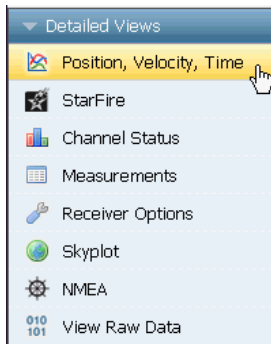
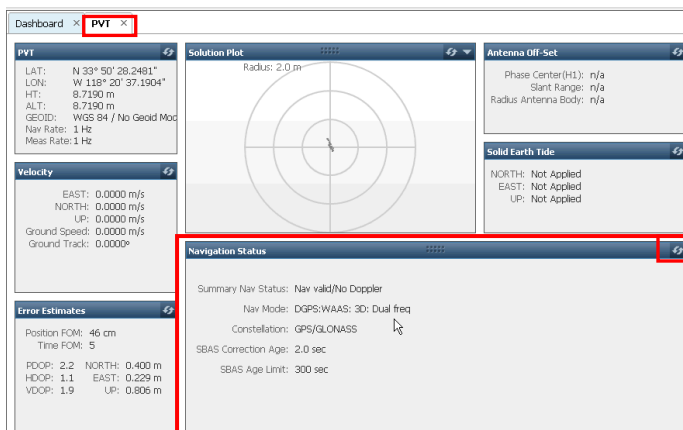
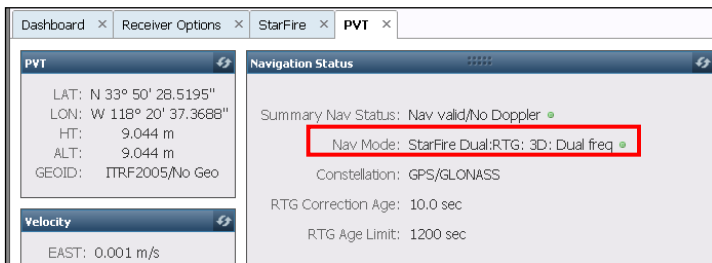

Figure 30: *Position, Velocity, Time* Menu Item
Figure 31: PVT Tab/Navigation Status Window
Figure 37: Nav Mode: StarFire
66. To confirm a valid position solution on the *PVT* tab/*Navigation Status* window, first click *Position, Velocity, Time* (see Figure 30) on the *Detailed Views* menu to open the PVT tab (see Figure 31).
- Click  (refresh) on the *Navigation Status* window to ensure that the current position solution is displayed (see Figure 31).
77. Click *Position, Velocity & Time* on the *Detailed Views* menu (see Figure 30) to determine if the receiver is navigating in *StarFire* mode. The *PVT* tab opens (see Figure 37).
The Nav Mode: *StarFire Dual:RTG: 3D: Dual freq* in Figure 37 indicates that the receiver is navigating in StarFire dual frequency with a 3D position fix, which is very accurate. RTG is another term for StarFire (refer to the Glossary at the end of this guide).